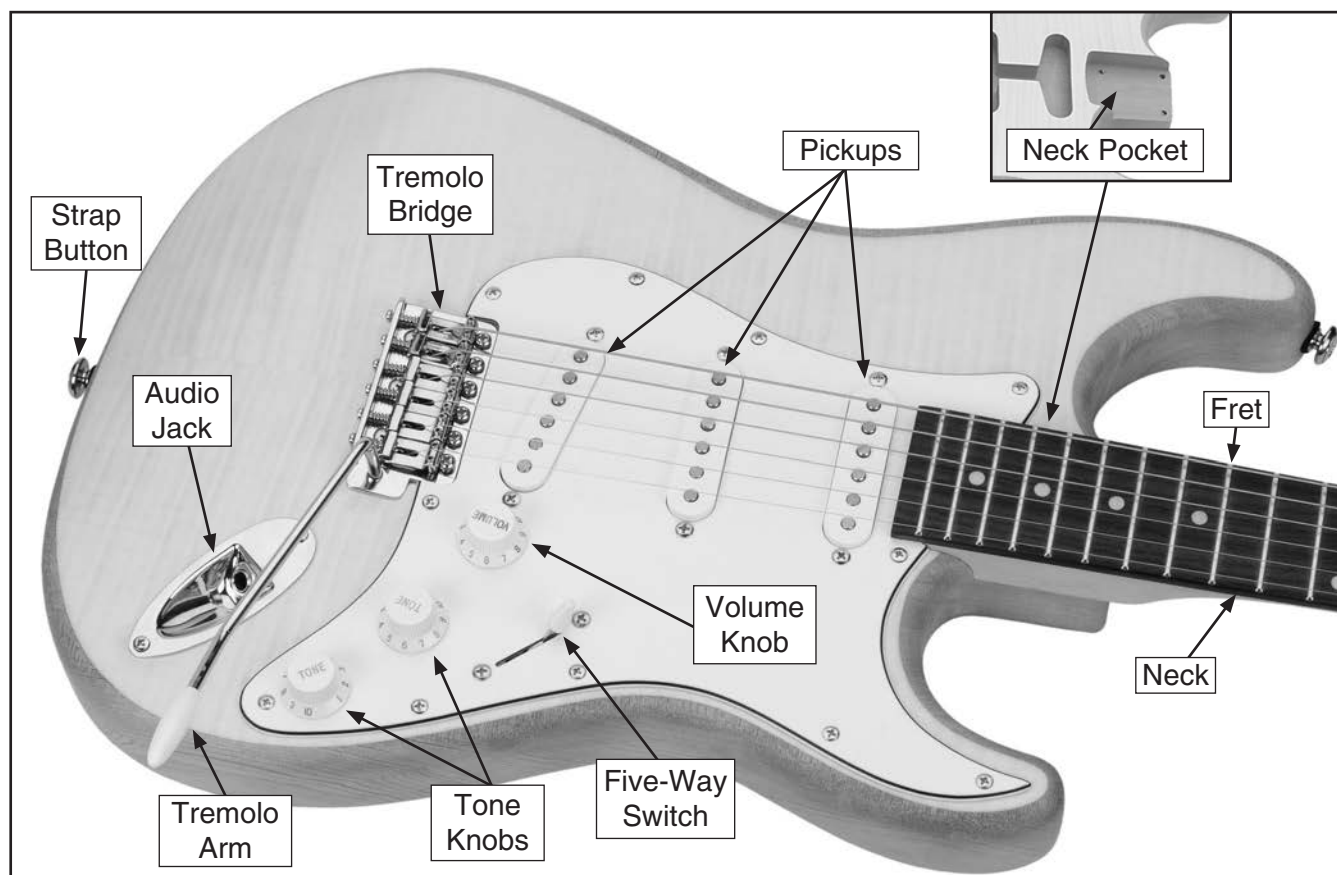

Figure 4. Model H8069 controls.
1. Mask off the neck pocket (**Figure 4**). Press the masking tape tight against the edges of the pocket so the finish does not seep under the tape.